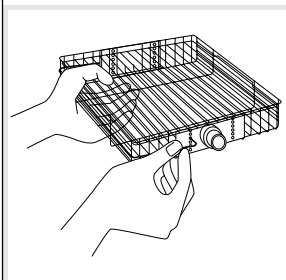

FIGURE 7
4. Release the basket lid by pulling the fastening pins out of the positioning holes located at both sides of the basket. (*Figure 7*)